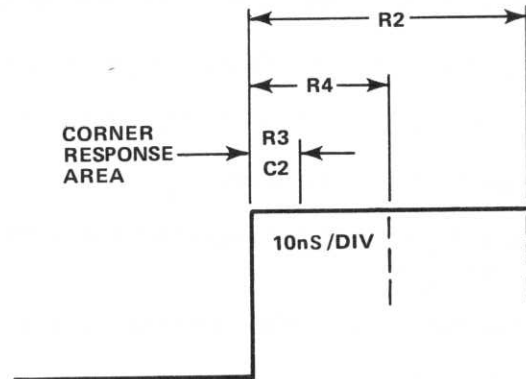
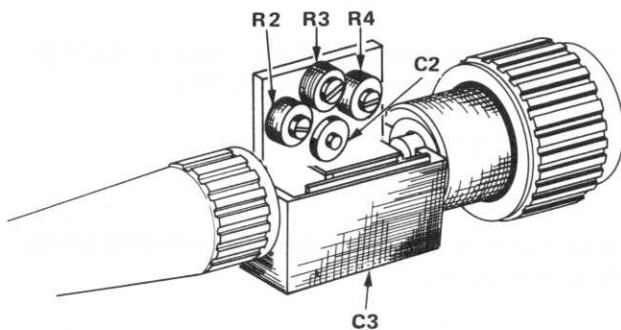

Fig. 5. Adjustments relative to waveform section.
Fig. 6. High-frequency adjustments, 1 meter cable length.
- b. Adjust R2 and R4 for best overall flat response. See Fig. 5 for details of adjustment area on waveform relative to component adjustment. See Fig. 6 and 7 for adjustment positions relative to probe and length of cable.
- c. Adjust R3 and C2 for best corner response (without ringing). See Fig. 5, 6, and 7.